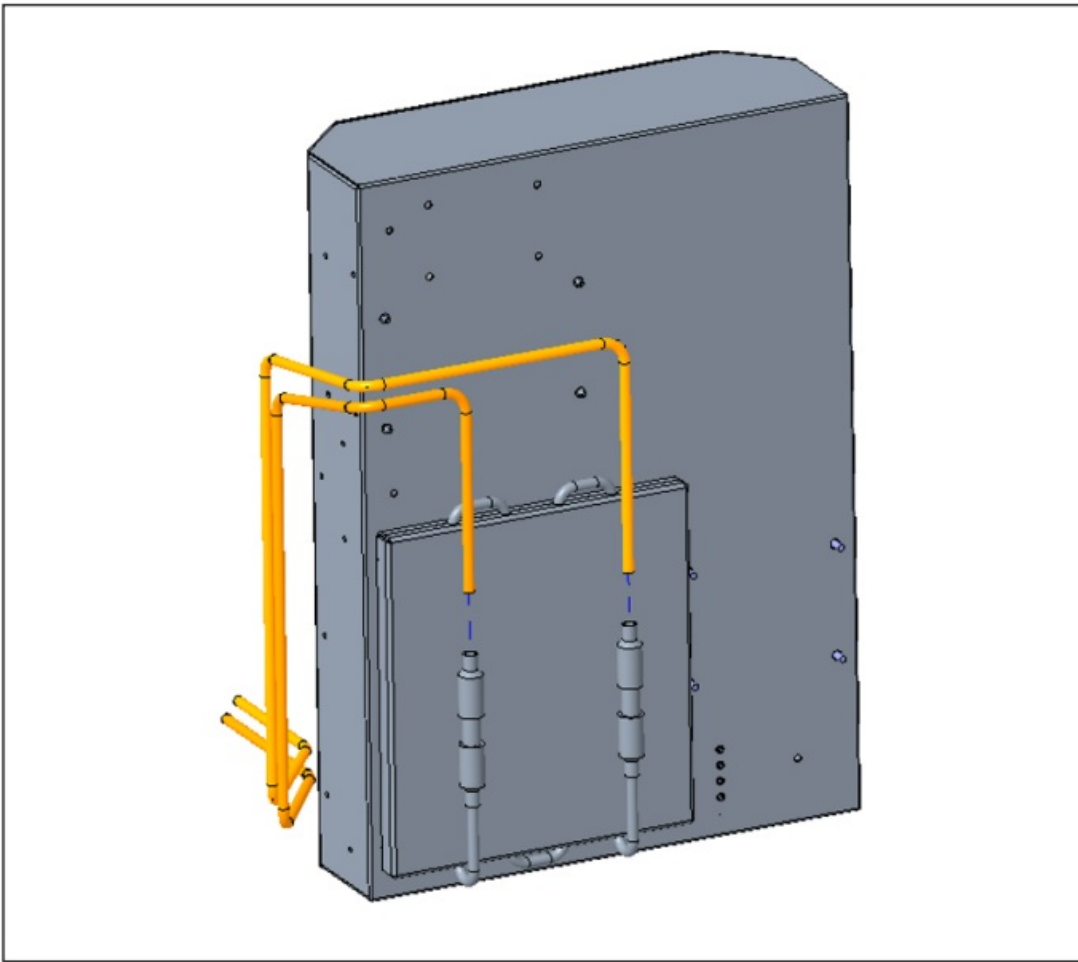

Figure 8 : Manifold Removal
8. Unbrazed manifold tubes at drive. Refer to Figure 8.